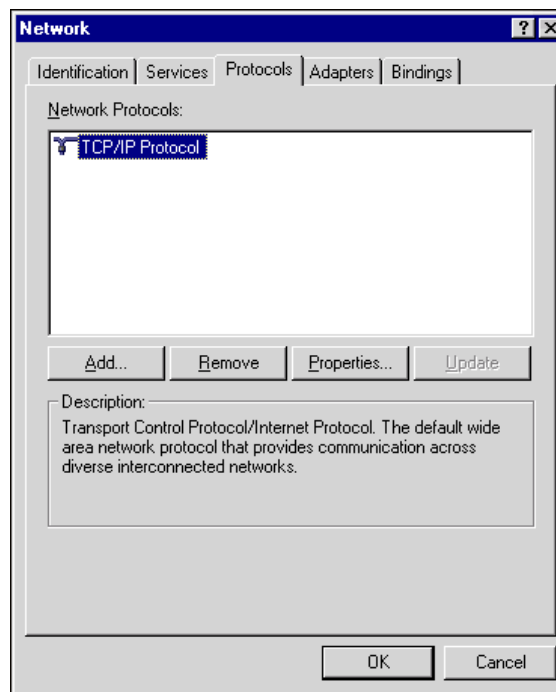

Figure B-1: Windows Network Dialog, Protocols Tab
- 5 Select the **Protocols** tab (Figure B-1). If TCP/IP Protocol appears in this list, skip steps 6 and 7.